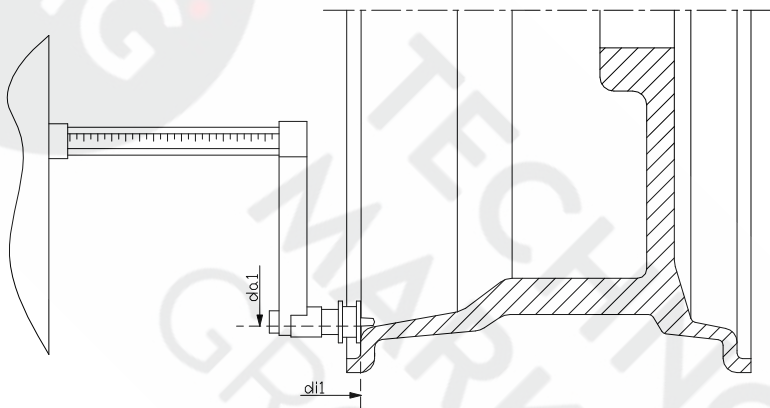
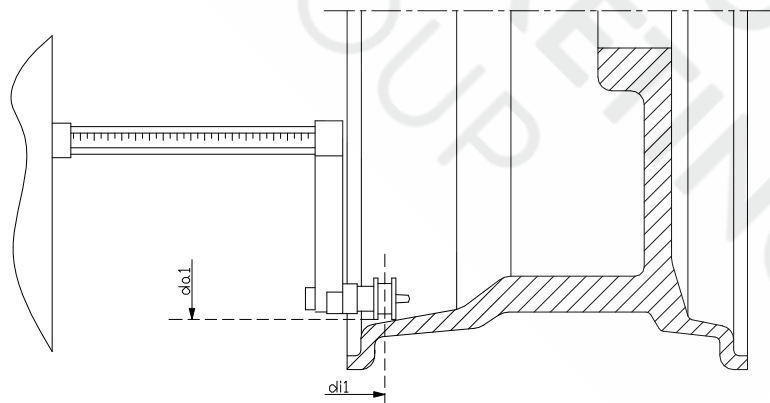

Figure F3.7 - Automatic acquisition of the internal plane distance in the ALS1 Program Type
Figure F3.8 - Automatic acquisition of the internal plane distance in the ALS2 Program Type
2. Extract the Distance/Diameter sensor and place it on the plane chosen as the internal plane. The point of support differs depending on whether the ALS1 or ALS2 programme has been enabled. See figures F3.7 and F3.8;
3. Extract the Distance/Diameter sensor and place it on the rim that corresponds to the internal plane chosen to apply the balancing weight. See figure F3.7 for the ALS1 Program Type and figure F3.8 for the ALS2 Programme Type;